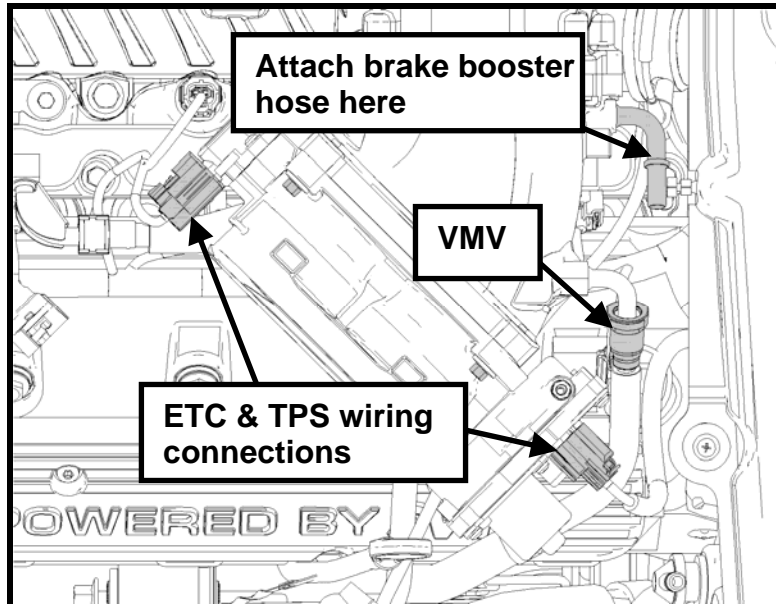

Fig. 26
**STEP 10:** Re-install the brake booster hose and VMV to the throttle spacer. Re-connect the electrical harness to the ETC and TPS mounted on the throttle body (See Fig. 26).